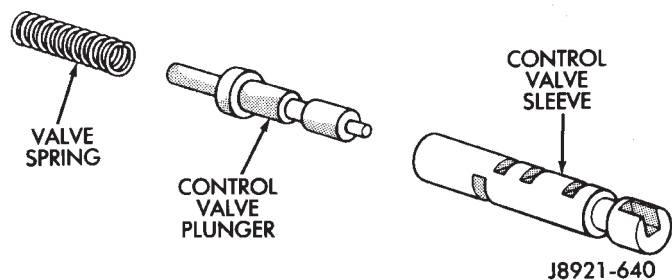

Fig. 10 Accumulator Control Valve Components
(11) Remove spring and control valve from valve sleeve (Fig. 10).
(12) Clean lower body valve components with solvent and dry them with compressed air only. Do not use shop towels or rags. Lint or foreign material from towels or rags can interfere with valve operation.
(13) Inspect condition of lower body components. Replace lower body if any bores are scored or cor-